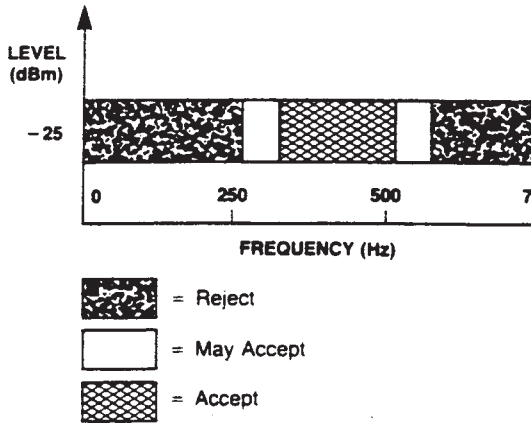

Figure 6 Call Progress Response
A Call Progress (CP) Mode can be selected allowing the detection of various tones which identify the progress of a telephone call on the network. The Call Progress tone input and DTMF input are common, however, call progress tones can only be detected when the CP Mode has been selected. DTMF signals cannot be detected if the CP Mode has been selected (see Table 5). Figure 6. indicates the useful detect bandwidth of the Call Progress filter. Frequencies presented to the input (IN + and IN-) which are within the 'accept' bandwidth limits of the filter are hard-limited by a high-gain comparator with the IRQ/CP pin serving as the output. The square wave output obtained from the schmitt trigger can be analyzed by a microprocessor or counter arrangement to determine the nature of the Call Progress tone being detected. Frequencies which are in the 'reject' area will not be detected, and consequently there will be no activity on IRQ/CP as a result of these frequencies.